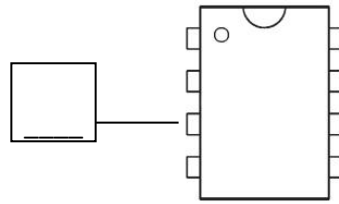

Figure 4
d. Number the lead of the NE555 shown in Figure 4.